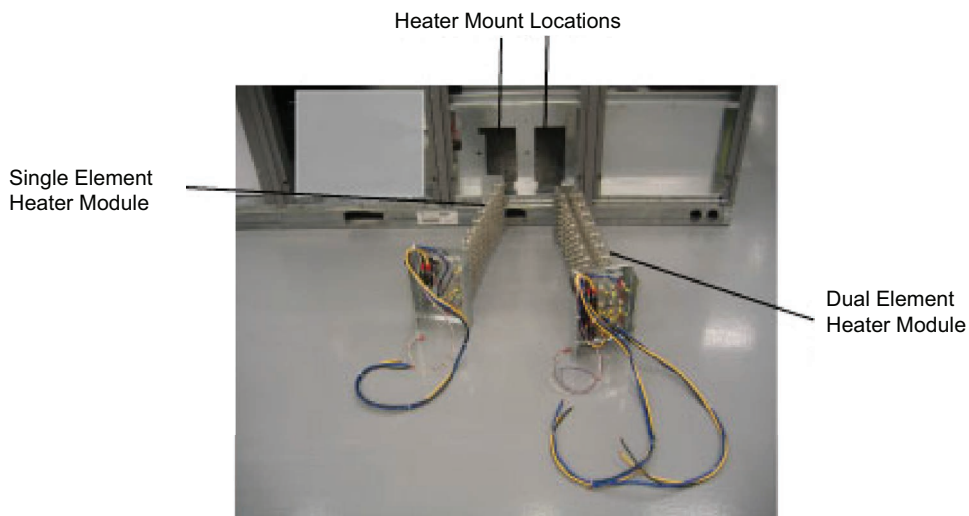

Fig. 39 — Typical Heater
3. Install the CRHEATER288A00-296A00 heater(s) (Fig. 39, 230v shown) into their mounting location(s) using the screws provided. Table 12 gives the correct heater location as a function of heater size, voltage, and supply air flow direction and unit supply air opening size.